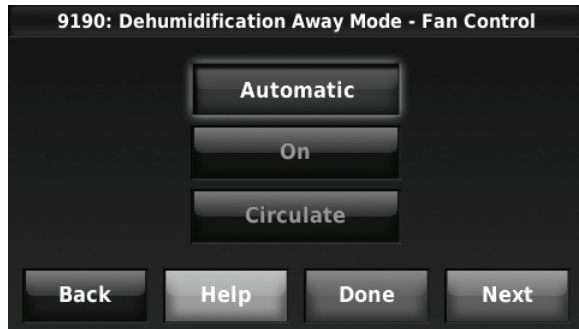

Fig. 236.
2. Set Fan Control settings. See Fig. 236.